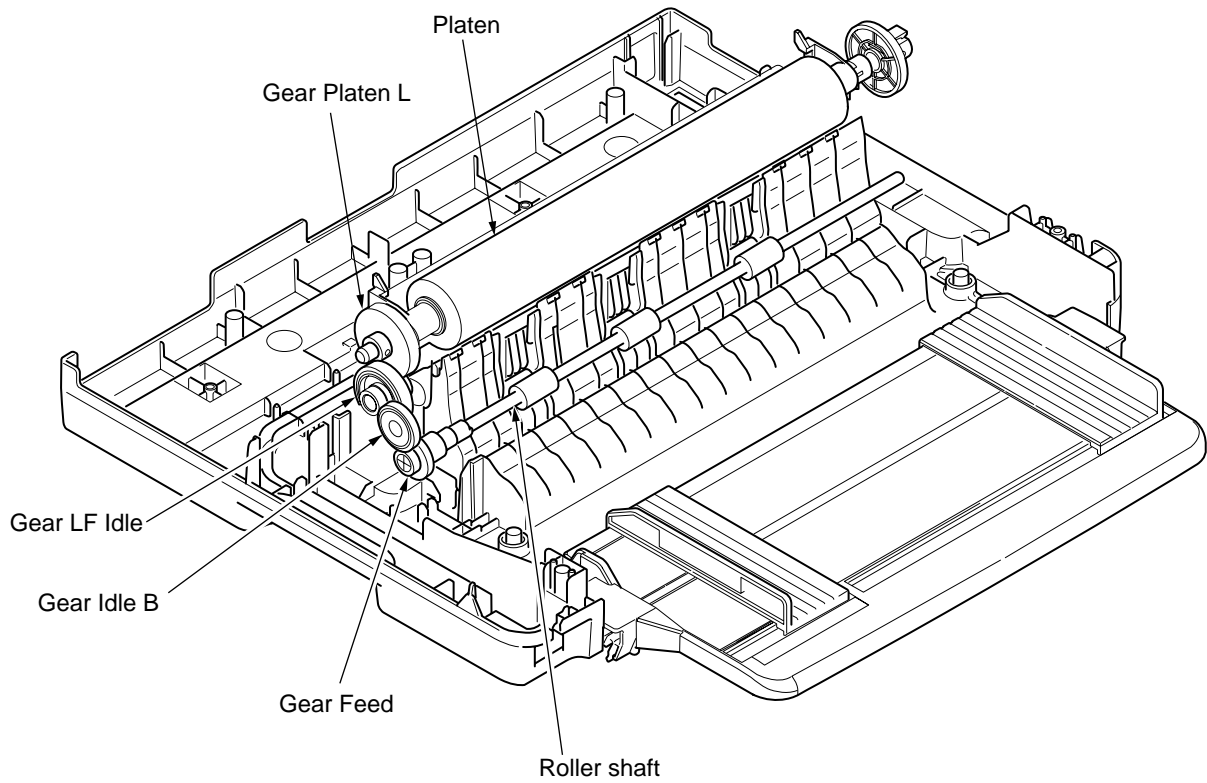

Figure 2-11
(5) Cut-sheet feeder operation (FRONT)(See Figure 2-11.)